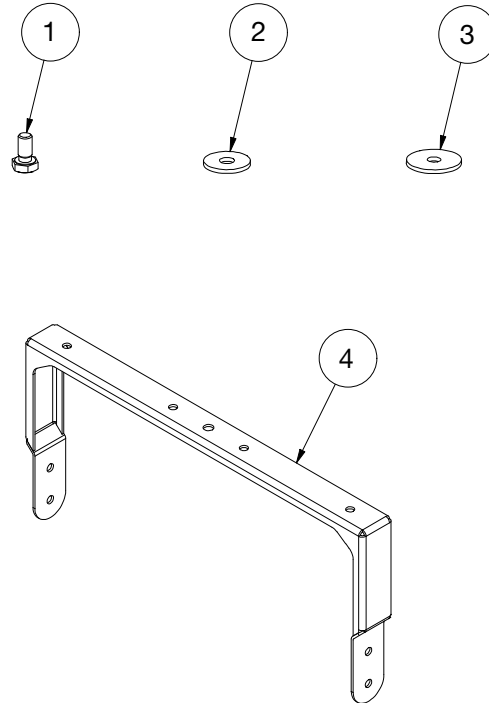
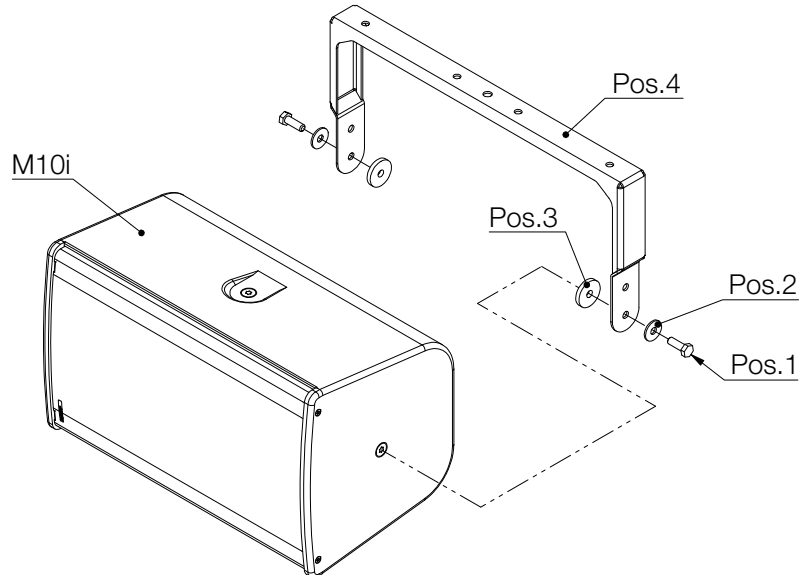

Figure 2.1 - Overview
Figure 4.5 - Assembly QBM10i to M10i loudspeaker
Mount positions 1 to 3 (see figure 2.1) on both sides as shown in figure 4.5. Note that at pos.4 (see figure 2.1) one of the side holes is used.